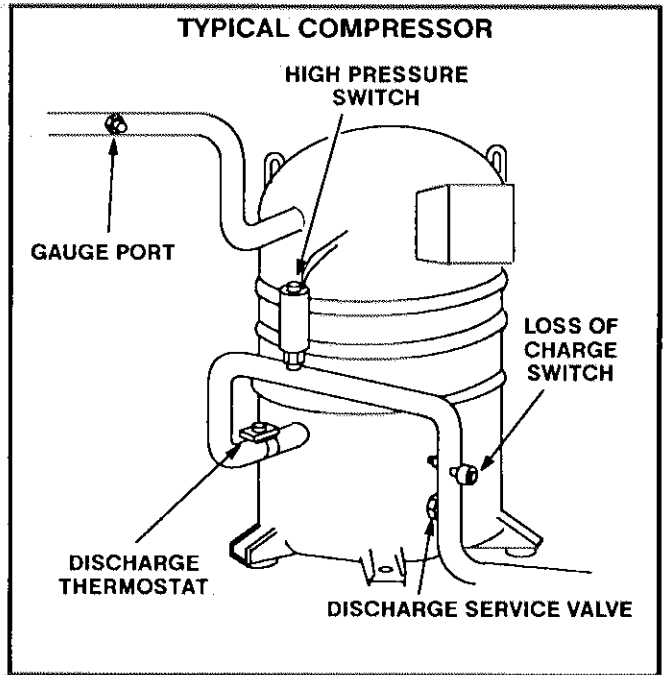

FIGURE 10
- 1- Attach gauge manifold. Refer to figure 10 for service valve identification.